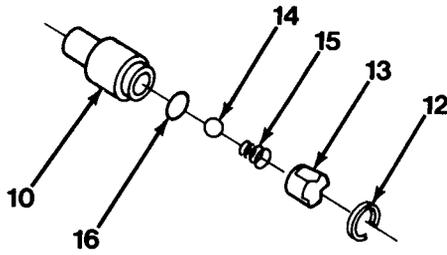

Figure 13-3
12. Install new O-ring (16), spring (15), ball (14) and cage (13) into stem (10). Secure with retaining ring (12, Figure 13-3).